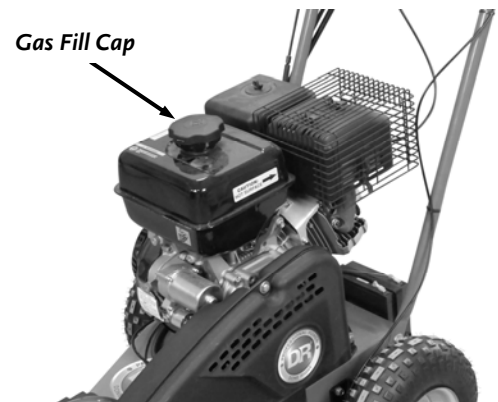

Figure 22
- Remove the Gas Fill Cap and fill the Gas Tank with fresh, unleaded gas (with a minimum of 85 Octane) to approximately 1" to 1-1/2" below the top of the fill neck to allow for fuel expansion (**Figure 22**). Be careful not to overfill and reinstall the Gas Fill Cap before starting the engine. See your Engine Owner's Manual for more detailed information.